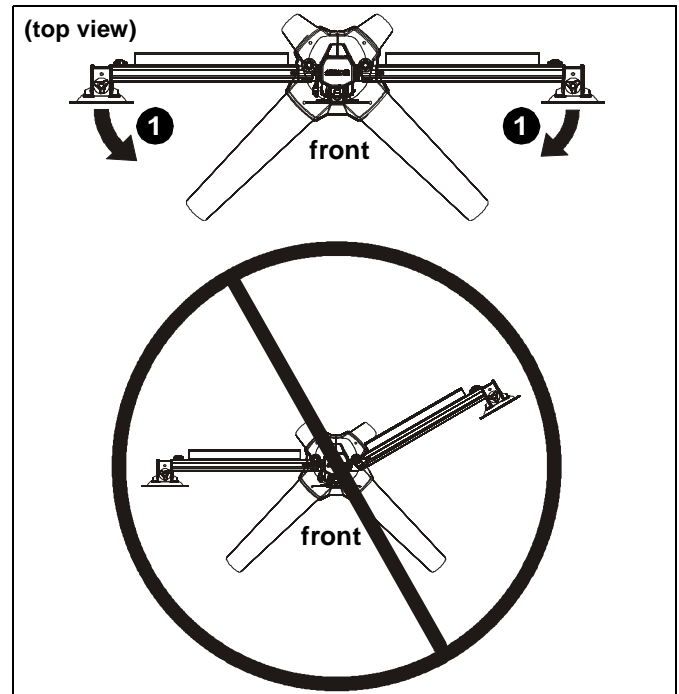

Figure 16
- Array arms may pivot toward the front of mount up to 15° per arm. (See Figure 16)
WARNING: Pivoting array arms toward the back of mount may cause K3 Series mount to tip over causing serious personal injury or damage to equipment! Do not pivot arms toward back of mount! (See Figure 16)